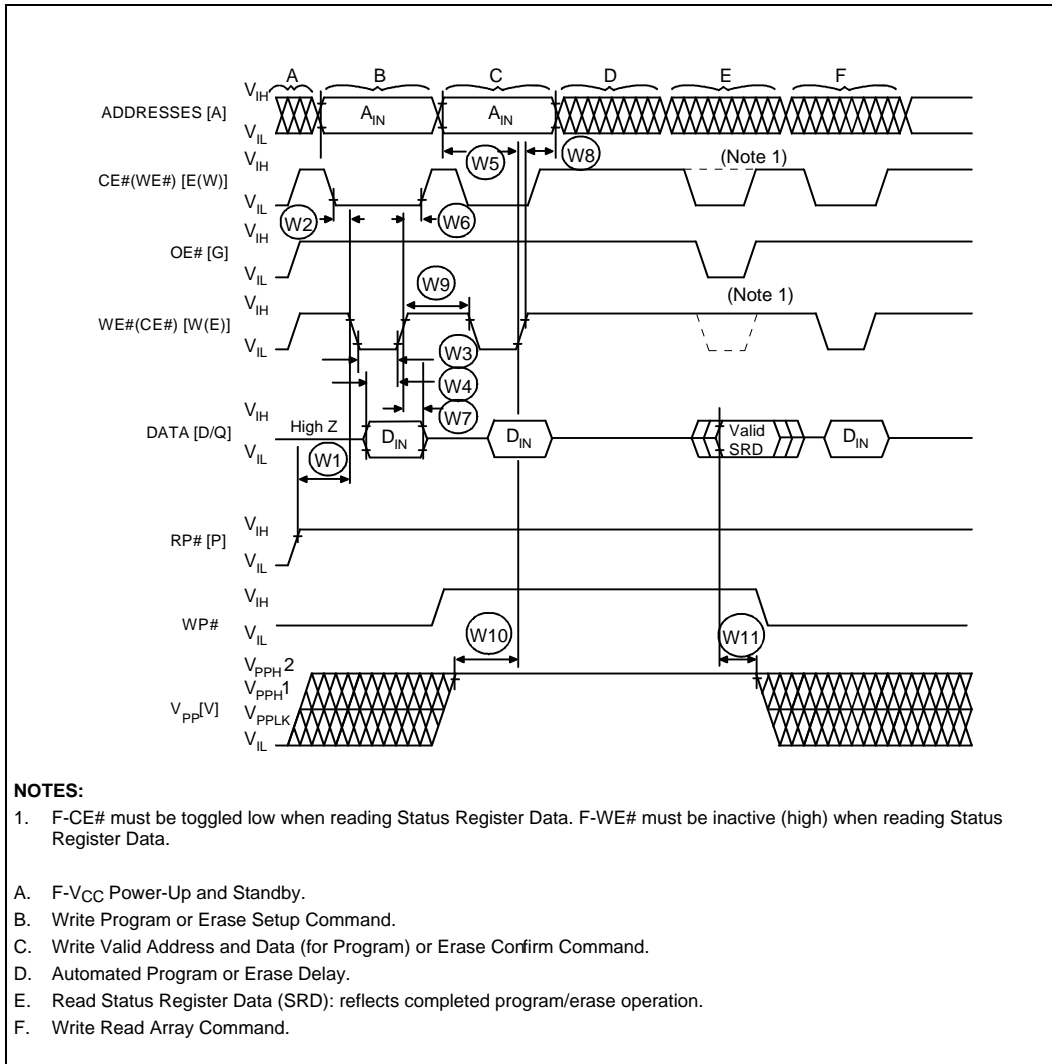

Figure 7. AC Waveform: Flash Program and Erase Operations
- See Figure 7, *AC Waveform: Flash Program and Erase Operations*.